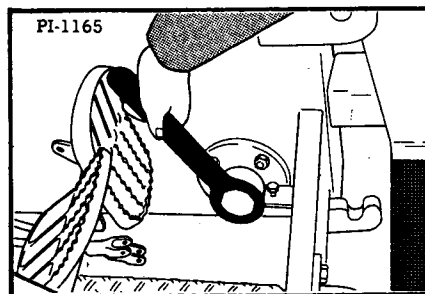

Fig. 67 Removing Oil Cap end of Axle
9. Remove the oil cap at the end of the axle (Figure 67).